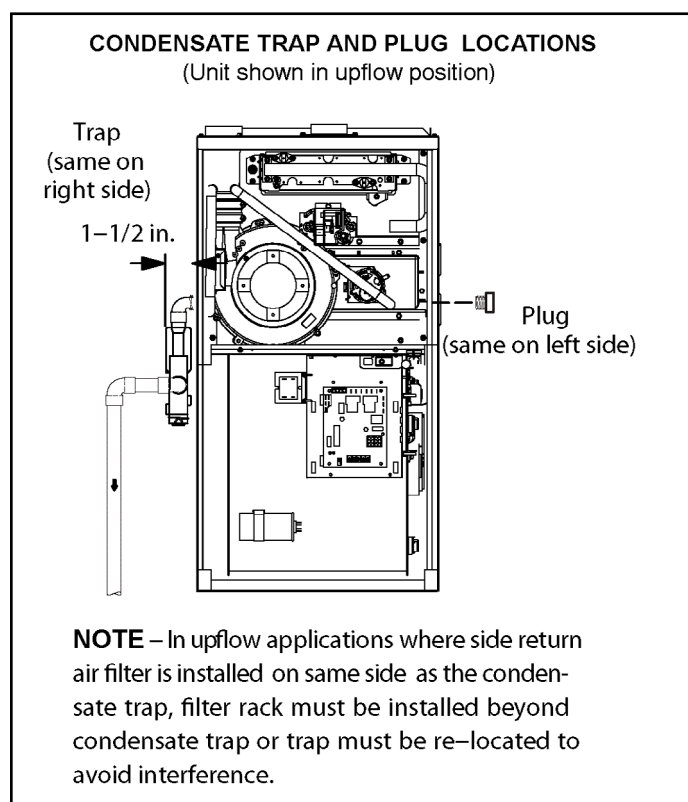
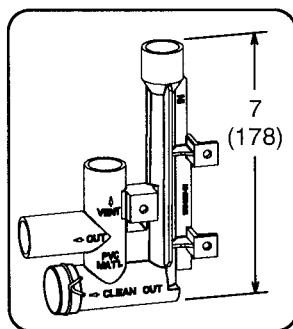

Figure 52.
Figure 58. Trap / Drain Assembly Using 1/2" PVC or 3/4" PVC
Refer to Figure 52 and Figure 53 for condensate trap locations. Figure 58 shows trap assembly using 1/2" PVC or 3/4" PVC.
2. Use a large flat head screw driver or an 1/2" drive socket extension and remove plug (Figure 52) from the cold end header box at the appropriate location on the side of the unit. Install provided 3/4 NPT street elbow fitting into cold end header box. Use Teflon tape or appropriate pipe dope.
3. Install the cap over the clean out opening at the base of the trap. Secure with clamp. See Figure 58.
4. Install drain trap using appropriate PVC fittings, glue all joints. Glue the provided drain trap as shown in Figure 58. Route the condensate line to an open drain. Condensate line must maintain a 1/4" downward slope from the furnace to the drain.